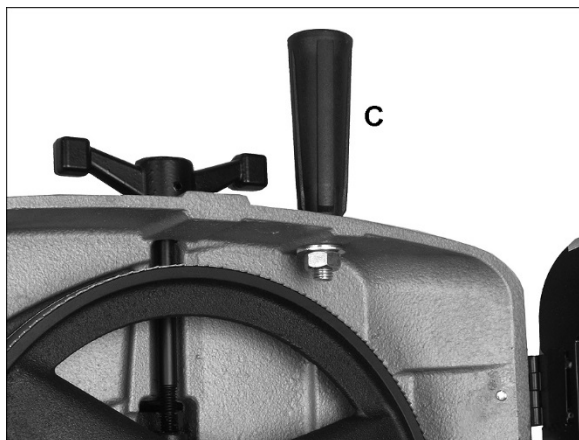

Figure 6-5: Installing Handle
4. Install handle with flat washers and nut (C, Figure 6-5), using 19mm wrench. To install, raise bow to vertical position and open guard.